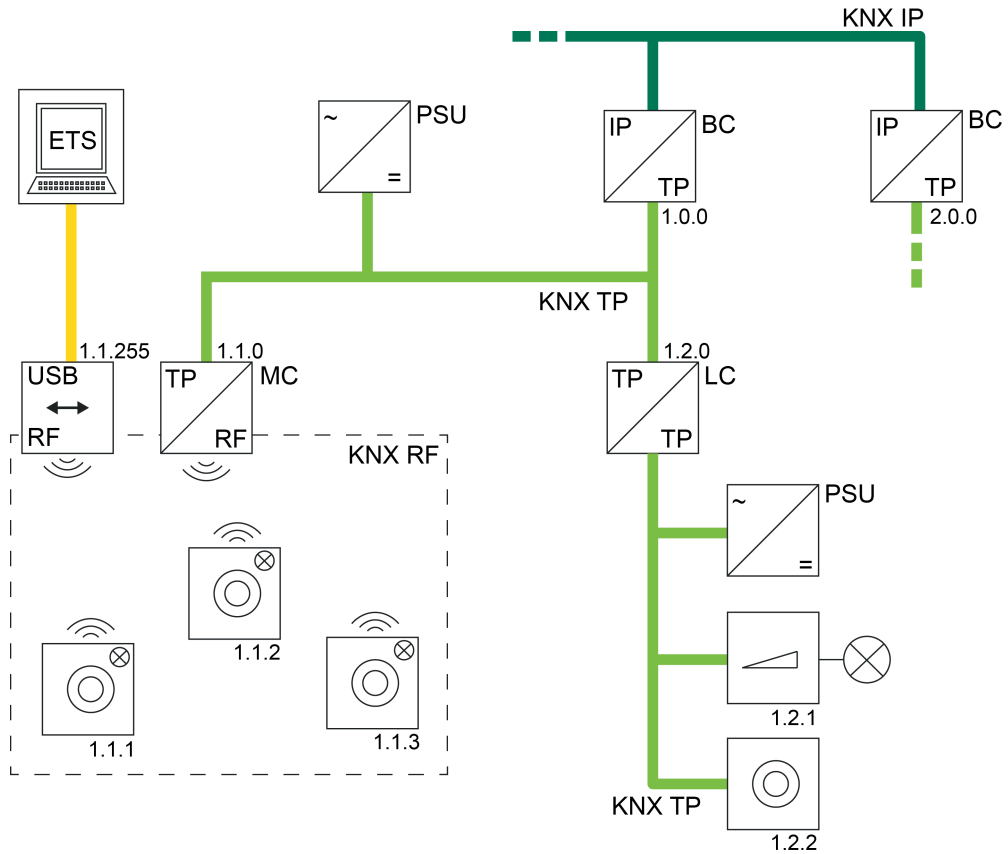

Figure 23: Example of a possible KNX topology with a KNX RF USB data interface
- Use of a KNX RF USB data interface (figure 23):